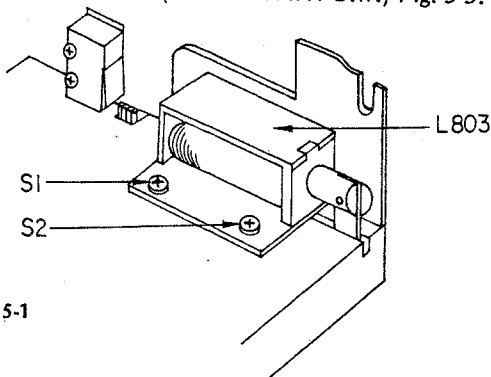
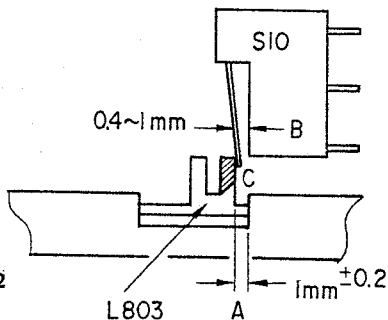

Fig. 5-1
Fig. 5-2
- (1) The Plunger Solenoid L803 is fixed by using track-shape holes. After turning on the Play-Switch and operating the Plunger solenoid, fix this Plunger Solenoid so that its position has a gap B, as shown in Fig. 5-2. Fasten two screws (S₁ and S₂) shown in Fig. 5-1, after having removed the play-motor. Also it is possible to adjust by bending the oblique line part.
- (2) Confirm that the Micro-Switch can be changed-over steadily by operating PLAY and STOP action.